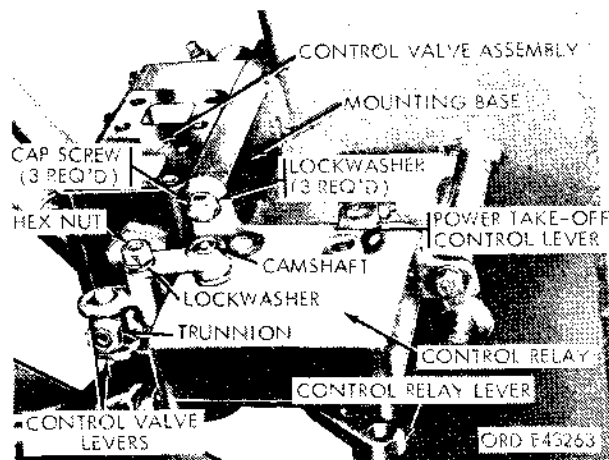

Figure 2-222. Bottom view of control valve assembly with pump and adapter removed.
(3) Remove the control valve levers (fig. 2-222) from the trunnion.
(3) Install the control valve levers (fig. 2-222) on the trunnion.